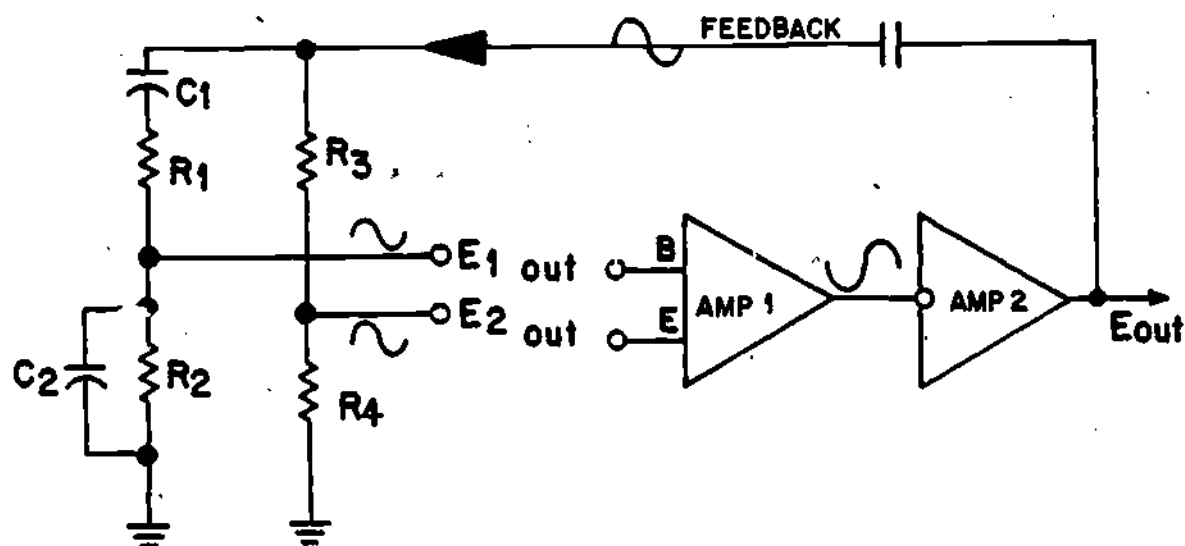

Figure 10
12. The drawing shown in Figure 10 is a re-drawn Wien bridge circuit, together with block diagrams for the two amplifiers which are part of the total circuit.